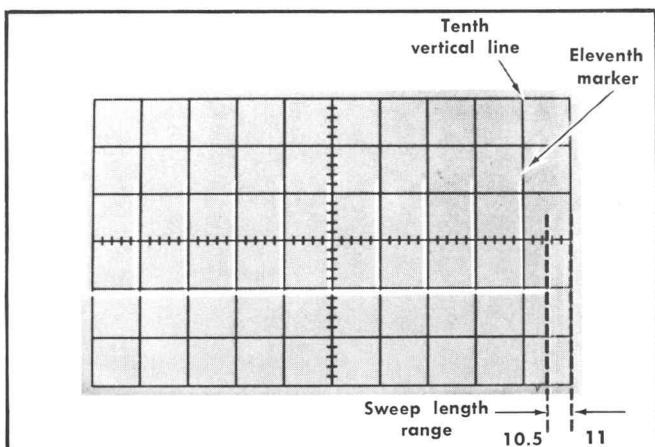

Fig. 5-17. Adjusting sweep length and centering. Typical waveform.
- d. ADJUST—R702, X1 Gain (see Fig. 5-16A for location) for one marker per division over the center eight divisions. The first and ninth markers must coincide exactly with their respective graticule lines (reposition horizontally as needed). See Fig. 5-17.